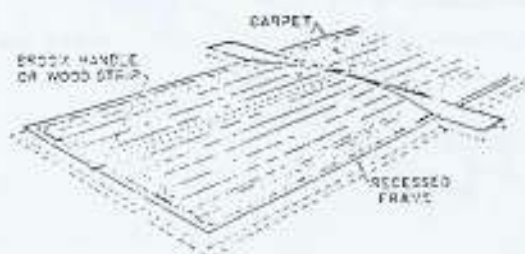

FIG. 15 Carpet installation (recessed).
8. Insert the carpets into the frame by first laying a wooden rod or broom handle across the center of the frame (see FIG. 15). Lay the carpet across the wooden rod and slide the edges of the carpet toward the frame. Slide out the wooden rod and force the edges of the carpet into the frame.